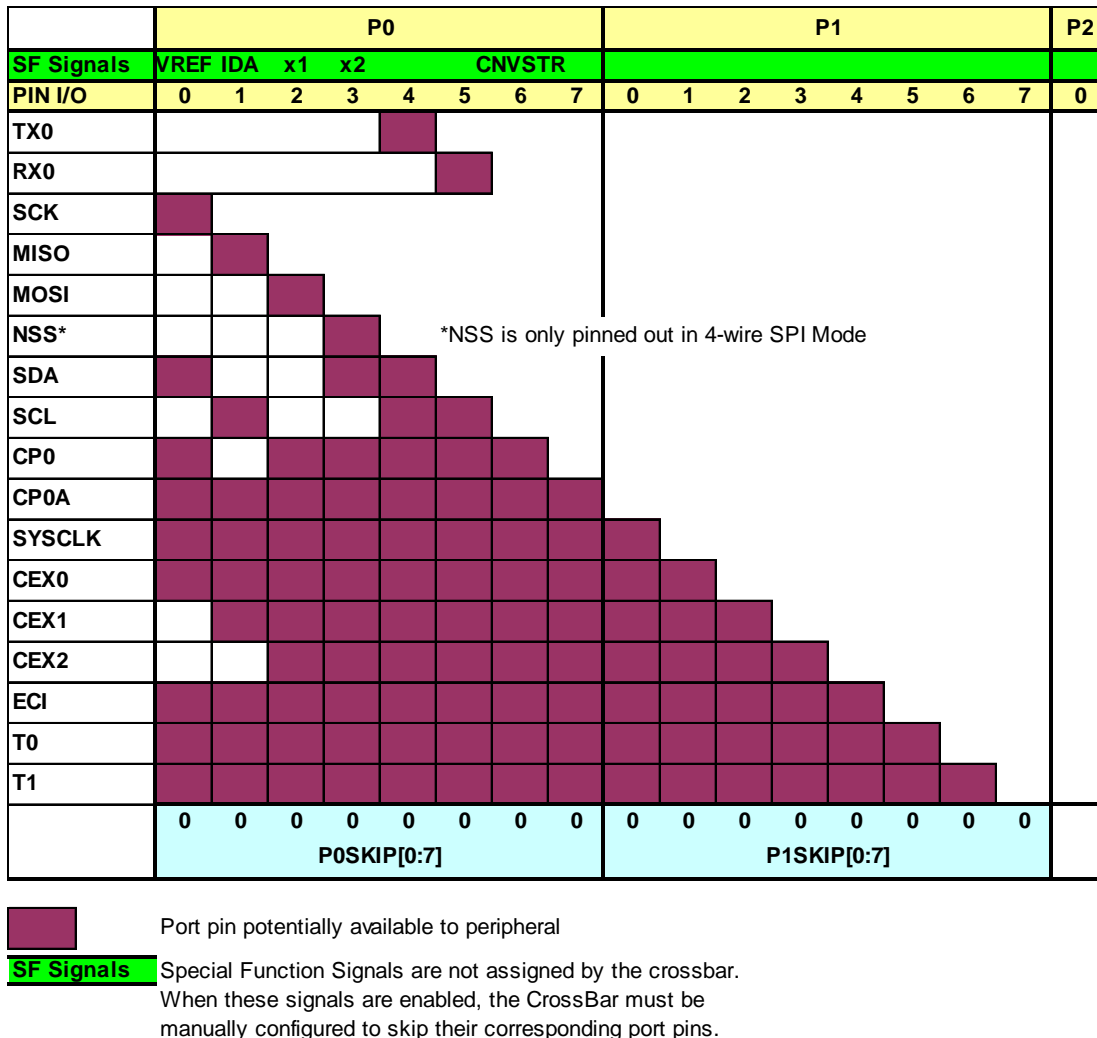

Figure 14.3. Crossbar Priority Decoder with No Pins Skipped
Digital and analog resources are available through 17 I/O pins. Port pins are organized as two byte-wide Ports and one 1-bit Port. Each of the Port pins can be defined as general-purpose I/O (GPIO) or analog input; Port pins P0.0 - P1.7 can be assigned to one of the internal digital resources as shown in Figure 14.3. The designer has complete control over which functions are assigned, limited only by the number of physical I/O pins. This resource assignment flexibility is achieved through the use of a Priority Crossbar Decoder. Note that the state of a Port I/O pin can always be read in the corresponding Port latch, regardless of the Crossbar settings.
The Crossbar assigns the selected internal digital resources to the I/O pins based on the Priority Decoder (Figure 14.3 and Figure 14.4). The registers XBR0 and XBR1, defined in SFR Definition 14.1 and SFR Definition 14.2, are used to select internal digital functions.
The Priority Crossbar Decoder (Figure 14.3) assigns a priority to each I/O function, starting at the top with UART0. When a digital resource is selected, the least-significant unassigned Port pin is assigned to that resource (excluding UART0, which is always at pins 4 and 5). If a Port pin is assigned, the Crossbar skips that pin when assigning the next selected resource. Additionally, the Crossbar will skip Port pins whose associated bits in the PnSKIP registers are set. The PnSKIP registers allow software to skip Port pins that are to be used for analog input, dedicated functions, or GPIO.
**Important Note on Crossbar Configuration:** If a Port pin is claimed by a peripheral without use of the Crossbar, its corresponding PnSKIP bit should be set. This applies to P0.0 if VREF is used, P0.3 and/or P0.2 if the external oscillator circuit is enabled, P0.6 if the ADC or IDAC is configured to use the external conversion start signal (CNVSTR), and any selected ADC or Comparator inputs. The Crossbar skips selected pins as if they were already assigned, and moves to the next unassigned pin. Figure 14.3 shows the Crossbar Decoder priority with no Port pins skipped (P0SKIP, P1SKIP = 0x00); Figure 14.4 shows the Crossbar Decoder priority with the XTAL1 (P0.2) and XTAL2 (P0.3) pins skipped (P0SKIP = 0x0C).